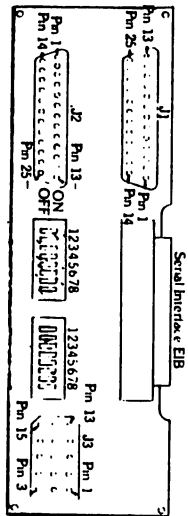

Figure 1
1. With power turned off on the 8510 or 8515, short pins 2 & 3 of J1 on the SLU EIB with a small paper clip (refer to Figure 1). This will tie the X-mit & the receive ports together.